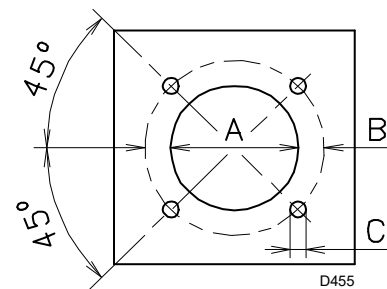

Fig. 10
Drill the combustion chamber locking plate as shown in Fig. 10 (Tab. I). The position of the threaded holes can be marked using the thermal screen supplied with the burner.
- Fit the entire burner onto the boiler hole prepared previously (Fig. 10), and fasten with the screws supplied.